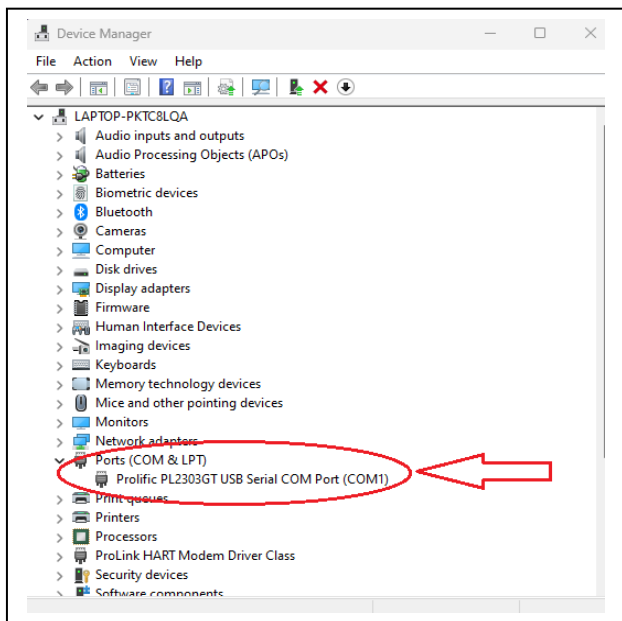

Figure 18
3. Connect straight-through serial cable with DB9 connector to the LEFT or RIGHT bank GV1 as shown in Fig.18, depending on which bank needs to be reconfigured. The other end of cable should be connected to user's laptop. The USB to Serial Adapter might be needed.